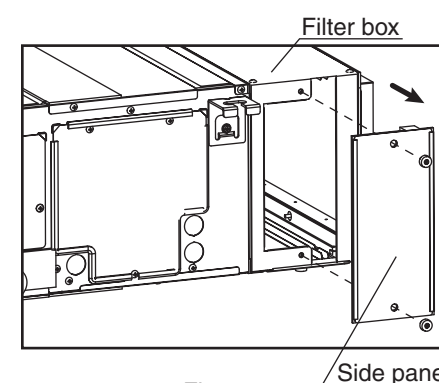

Fig.4-1-1
- (1) Remove the side panel from the filter box. (Fig. 4-1-1)